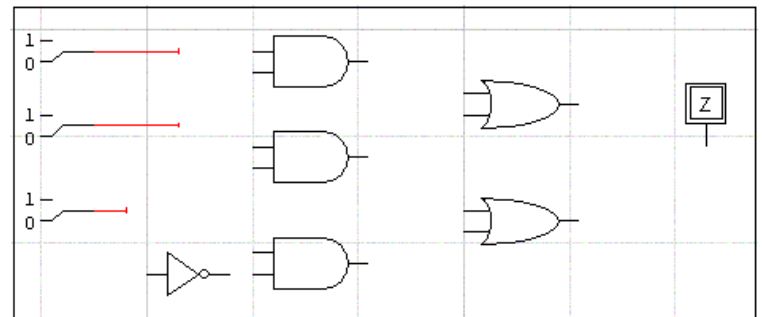

Fig. 6
- Drag the mouse a half-inch or so to the right and release the button. A red wire should now be attached to the switch, ending in the middle of nowhere. See Fig. 6.